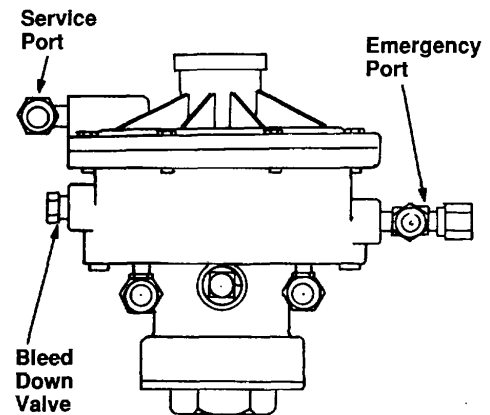
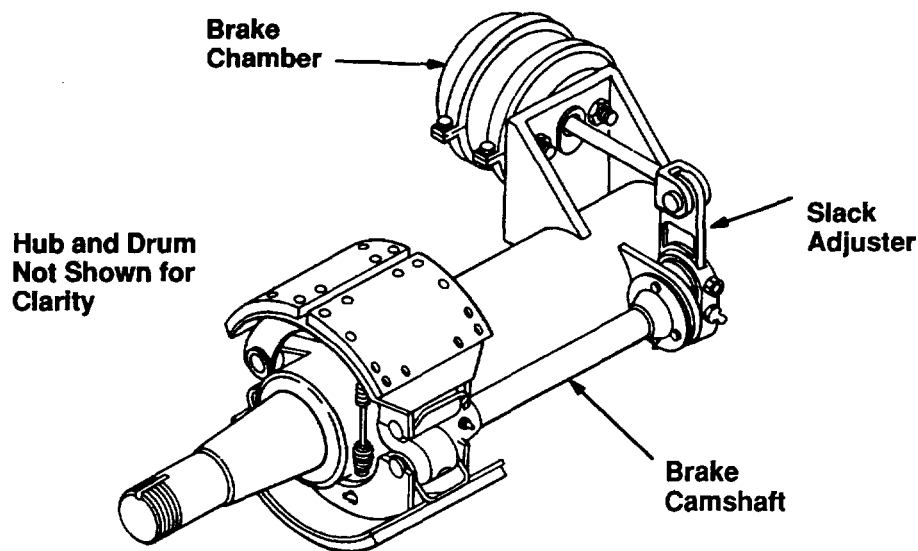

Figure 4-42. Emergency Relay Valve
Figure 4-43. Brake Actuator Assembly (M1098)
(5) Look for damaged brake camshaft.
(6) Look for worn brake hoses or damaged brake chamber.
(7) Check tightness of bolts which fasten bogie assembly to trailer frame.
a. *Description.* The semitrailer brakes are air-operated cam-type brakes. Two brake camshafts, two slack adjusters, and two brake chambers are assembled to the front and rear axle. The brake chamber movement through the slack adjuster causes the camshaft to rotate and force the brake shoes against the brake drum, fig. 4-43.
(1) Attached to the slack adjusters are two cam-shafts - one right-hand and one left-hand.
(2) The "S"-shaped part of the camshaft is positioned between the rollers on the brake shoes.
(1) Applying the brake pedal delivers through the service line to the emergency relay valve.
(2) In response to the service signal, the emergency relay valve releases air from the rear reservoir to the brake chambers. Air pressure causes the camshaft in each brake assembly to rotate and force the brake shoes against the brake drum.
(3) Releasing the brake pedal stops the service signal to the emergency relay valve. The emergency relay valve closes the supply from the reservoir and releases air from the brake chambers.
*e. Emergency Relay Valve, Fig. 4-42.* This valve increases the speed at which brakes apply and release. The relay valve is attached to the rear reservoir above the forward axle.
(1) The emergency relay valve releases air from the rear (primary) reservoir to all brake chambers in response to the service signal from the towing vehicle.
(2) The emergency relay valve will also cause the fail-safe brakes to apply automatically if the semitrailer breaks away from the towing vehicle.
*f. Fail-Safe Units, Fig. 4-43.* The fail-safe units are spring chambers which are assembled piggyback on the brake air chambers. One is installed on the air chambers at each of the four corners of the tandem axle assembly. The fail-safe unit provides parking and emergency braking.
(1) Air pressure of approximately 65 psi is